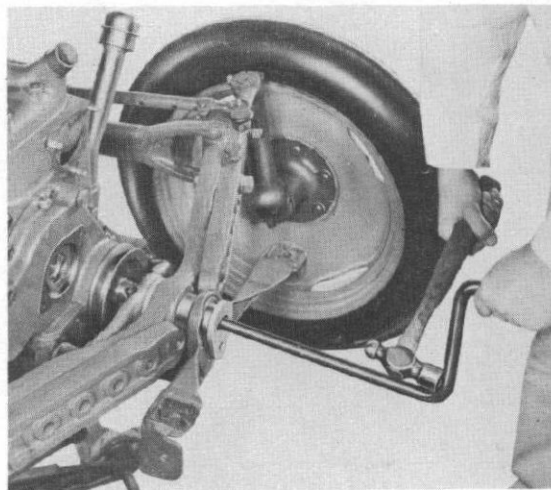

Fig. 2
- Step 3—Remove the axle pin as shown in Figure 2.